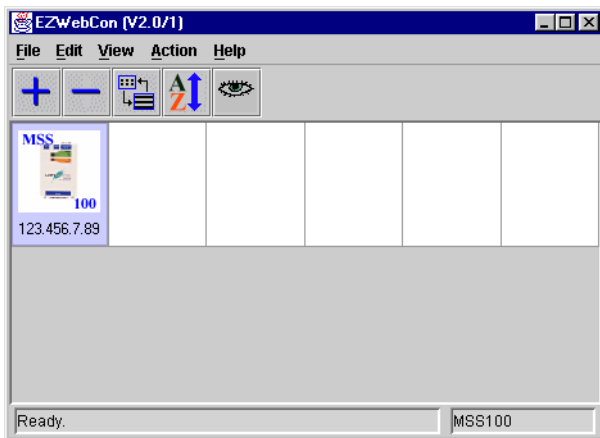

Figure 11 - LAN-100 Ready for Configuration Management
15. Repeat this Section beginning with Step 2 for each LAN-100 that will be connected to the access control network. As each LAN-100 is assigned an address, it will appear in the EZWebCon program window as shown in Figure 11.
1. Locate and run the EZWebCon program. Either use the Programs > EZWebCon > EZWebCon option from the operating system  button or use Windows Explorer to navigate and double-click on the Program Files > Lantronix > EZWebCon > EZWebCon.exe program listing. The EZWebCon window appears with any available LAN-100 units displayed (see Figure 11 on page 11).